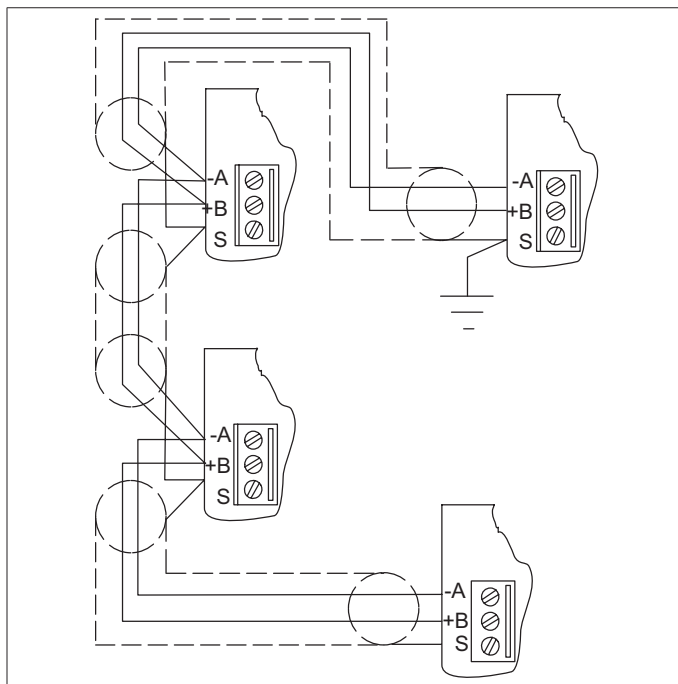
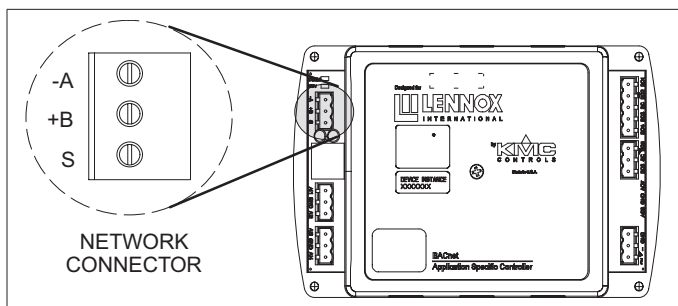

Figure 1. MS/TP Network Wiring
Figure 2. Network Connections
Connect the -A terminal in parallel with all other terminals. Connect the +B terminal in parallel with all other + terminals. Connect the shields of the cable together at each controller using the S terminal. See "Figure 1. MS/TP Network Wiring" for MS/TP network wiring. It is recommended that the physical network be arranged in a daisy chain topology.
4. Connect the BACnet network wiring to the BACnet module as shown in figure 1 to the BACnet network connector shown in “Figure 2. Network Connections”.